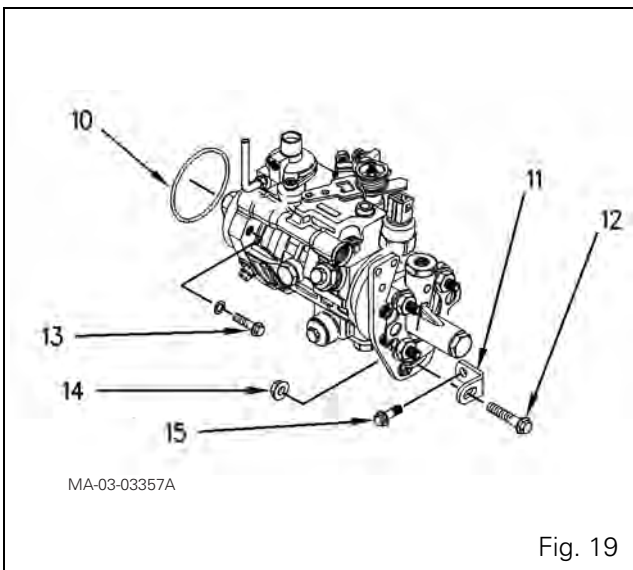

Fig. 19
NOTE: Do not lubricate the "O" ring (10) (Fig. 19): it should be dry fitted.
96. Fit a new "O" ring (10) on the injection pump. Position the injection pump on the housing. Refit the screws (13). Tighten the screws to 25 Nm.
97. Refit the screw (15) and bracket (11) if removed. Check that the bracket properly supports the pump alone. Tighten the screw (15) to 44 Nm.
98. Refit the screw (12) and the nut (14).
99. Ensure the contact faces between the pump shaft and injection pump gear are clean. Lubricate the threads of the pump shaft. The nut (8) should turn freely until it reaches the gear.